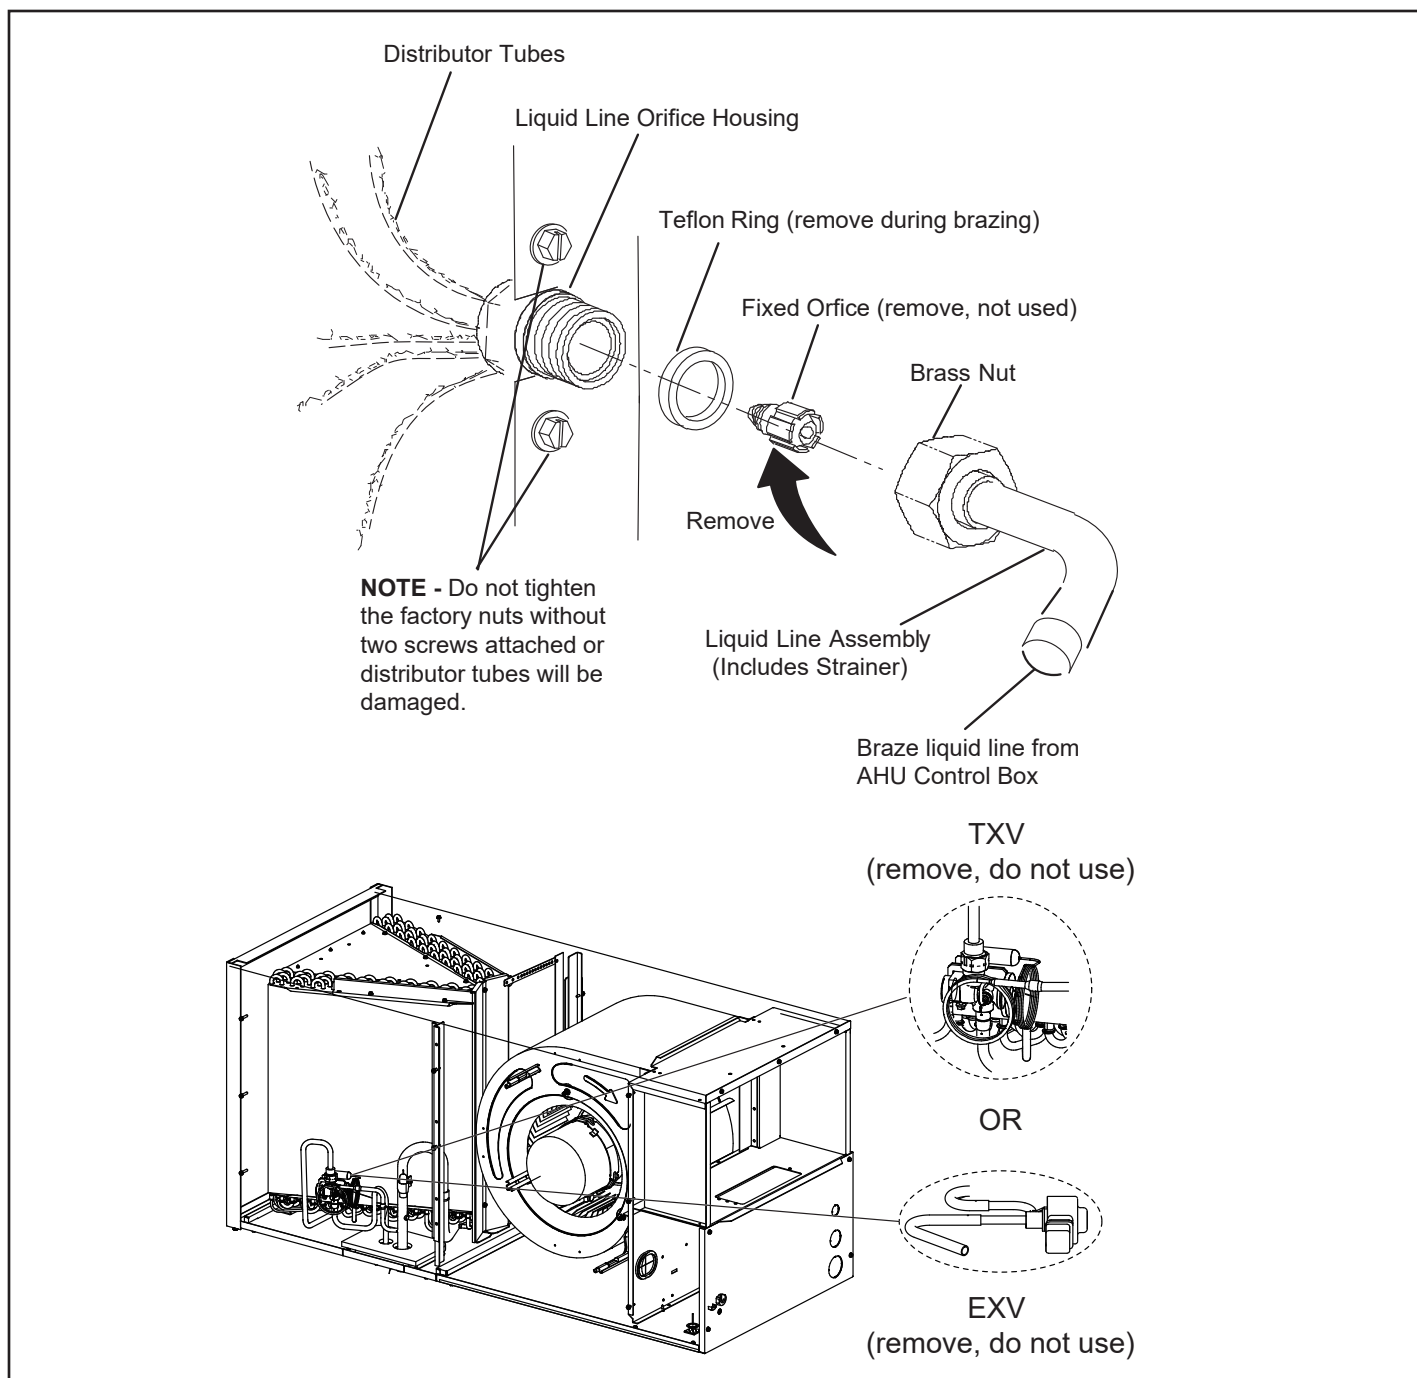

Figure 10. Remove Metering Device from Coil
1. Remove and discard any metering device (TXV, orifice, piston and cap tube, etc.) from the coil; it will not be used. See Figure 10.